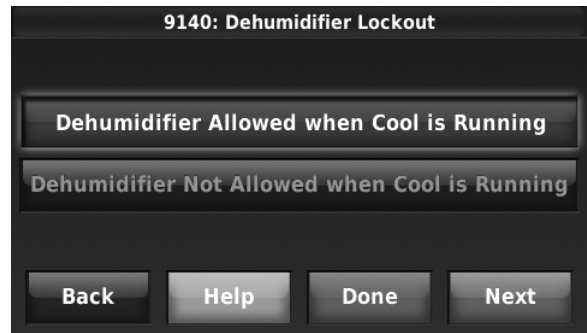

Fig. 228.
7. Set the desired lockout option. See Fig. 228.